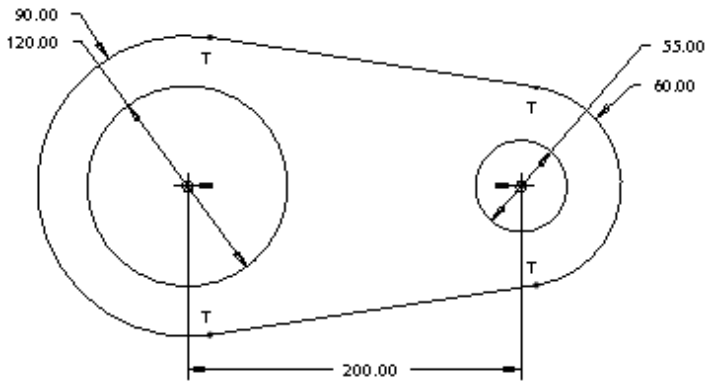

Figure 2-39 Complete sketch with dimensions and constraints
- Dimension the sketch and then modify the dimensions of the sketch, refer to Figure 2-39.
The sketch is completed and is shown in Figure 2-39.